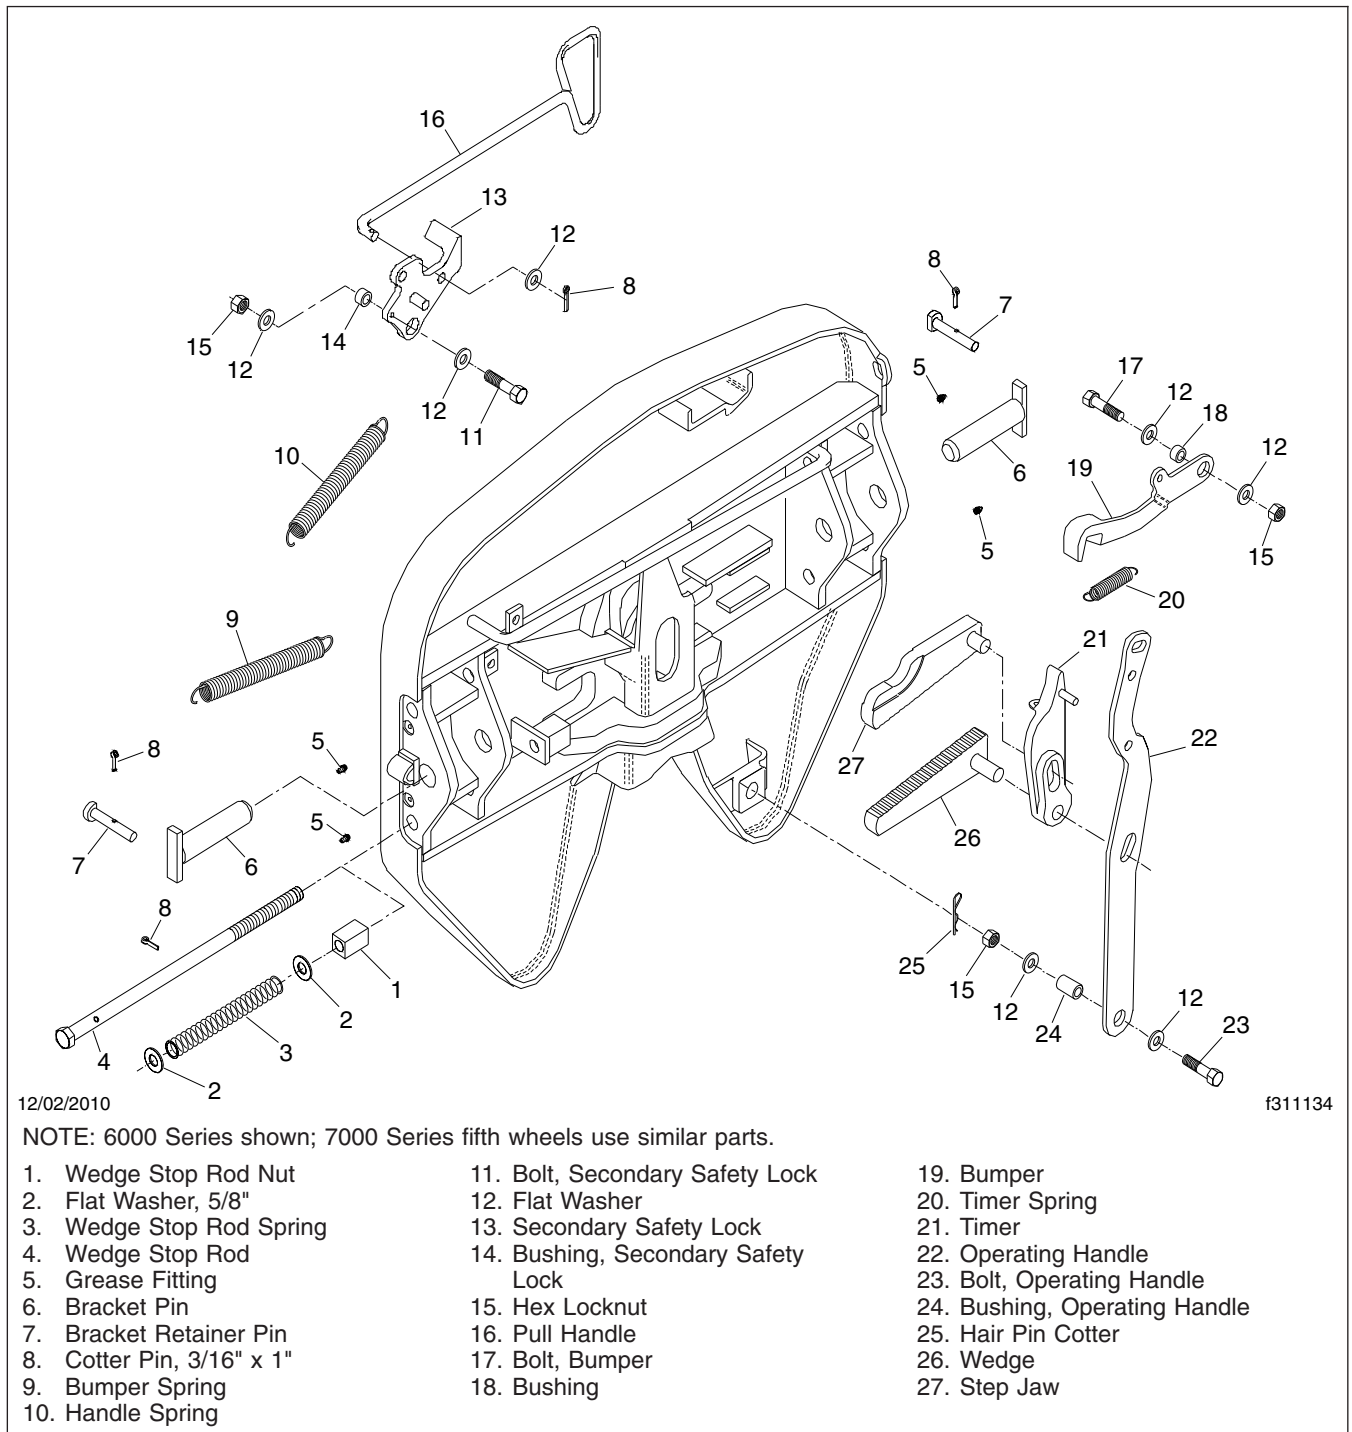

Fig. 4, Fontaine Fifth Wheel
4. Ensure that both bracket pins are in place and secured by retainer pins and cotter pins. See **Fig. 4**.